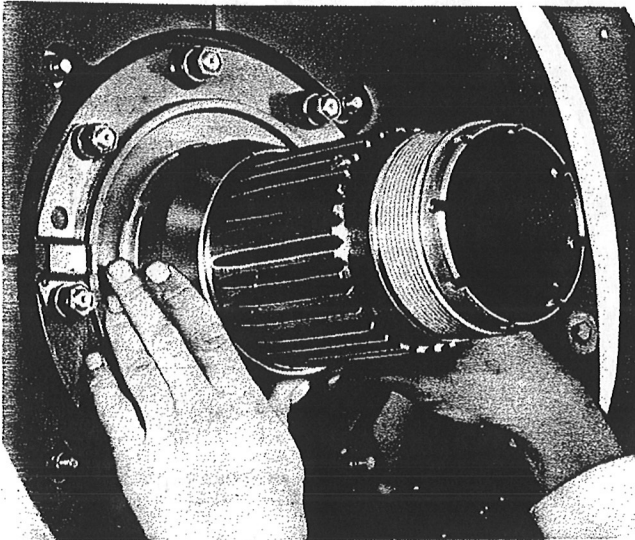

Figure 19—Installing Rear Cone
- i. Install the rear cone. (See figure 19.) Do not apply oil to the shaft or cone when the cone is installed.